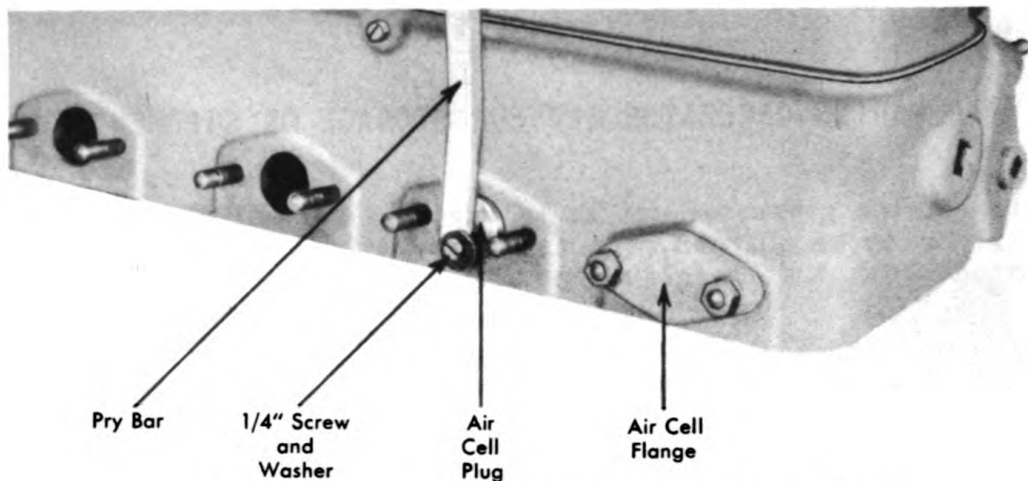

Figure 51. Removing Energy Cell Cover Plates.
4. Take off energy cell cover plates. See Figure 51. Then remove energy cell plugs and pour one ounce of rust preventative into each cylinder. Then crank the engine over with the starter, with the throttle full open for a full twenty-five revolutions. Then reinstall energy cell plugs and tighten down energy cell cover plates. Then drain the crankcase and also drain the lubricating oil from the injection pump. Fill the lubricating oil compartment of the fuel injection pump with the rust preventative oil mixture. Replace the breather and filler cap and tape the holes at the bottom of the breather of the fuel injection pump and also tape the vent hole in the top of the hand primer of the fuel transfer pump.